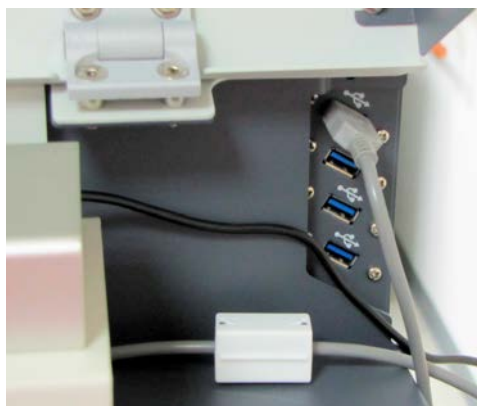

Figure 5-11. USB ports
1. Use the USB cable of the syringe pump to connect it to a USB port in the accessories cabinet of the mass spectrometer. See Figure 5-11. This allows controlling the syringe pump by the instrument software.
1. Connect the USB cable to the mating connector on the back of the switching valve. The USB ports of the mass spectrometer are located in the accessories cabinet of the mass spectrometer. See Figure 5-11 on page 5-25.